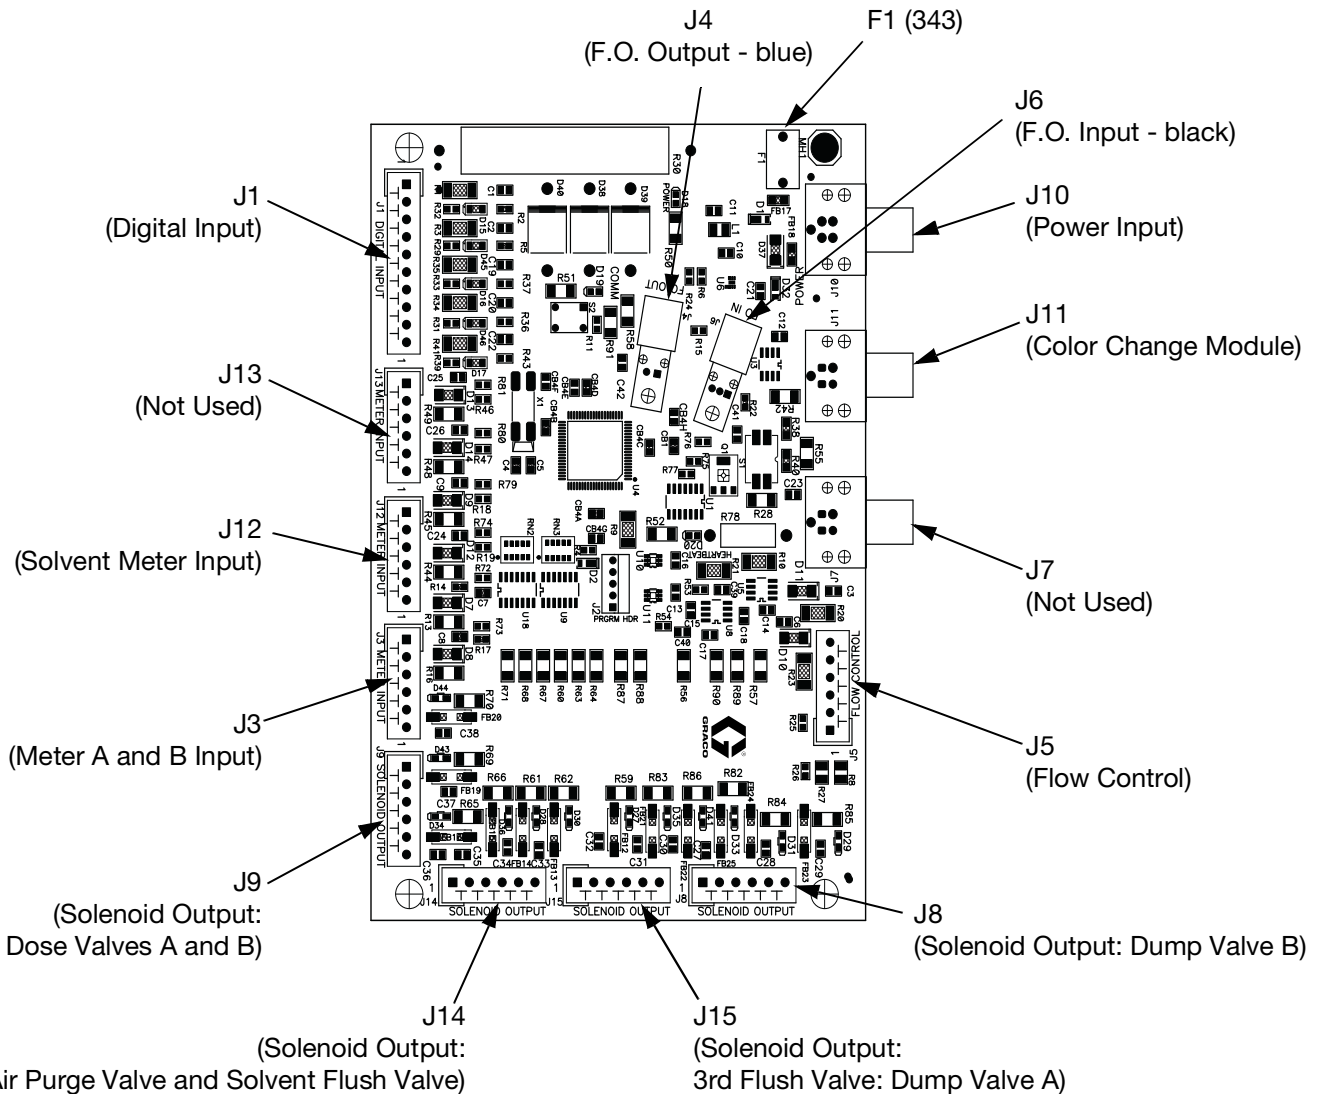
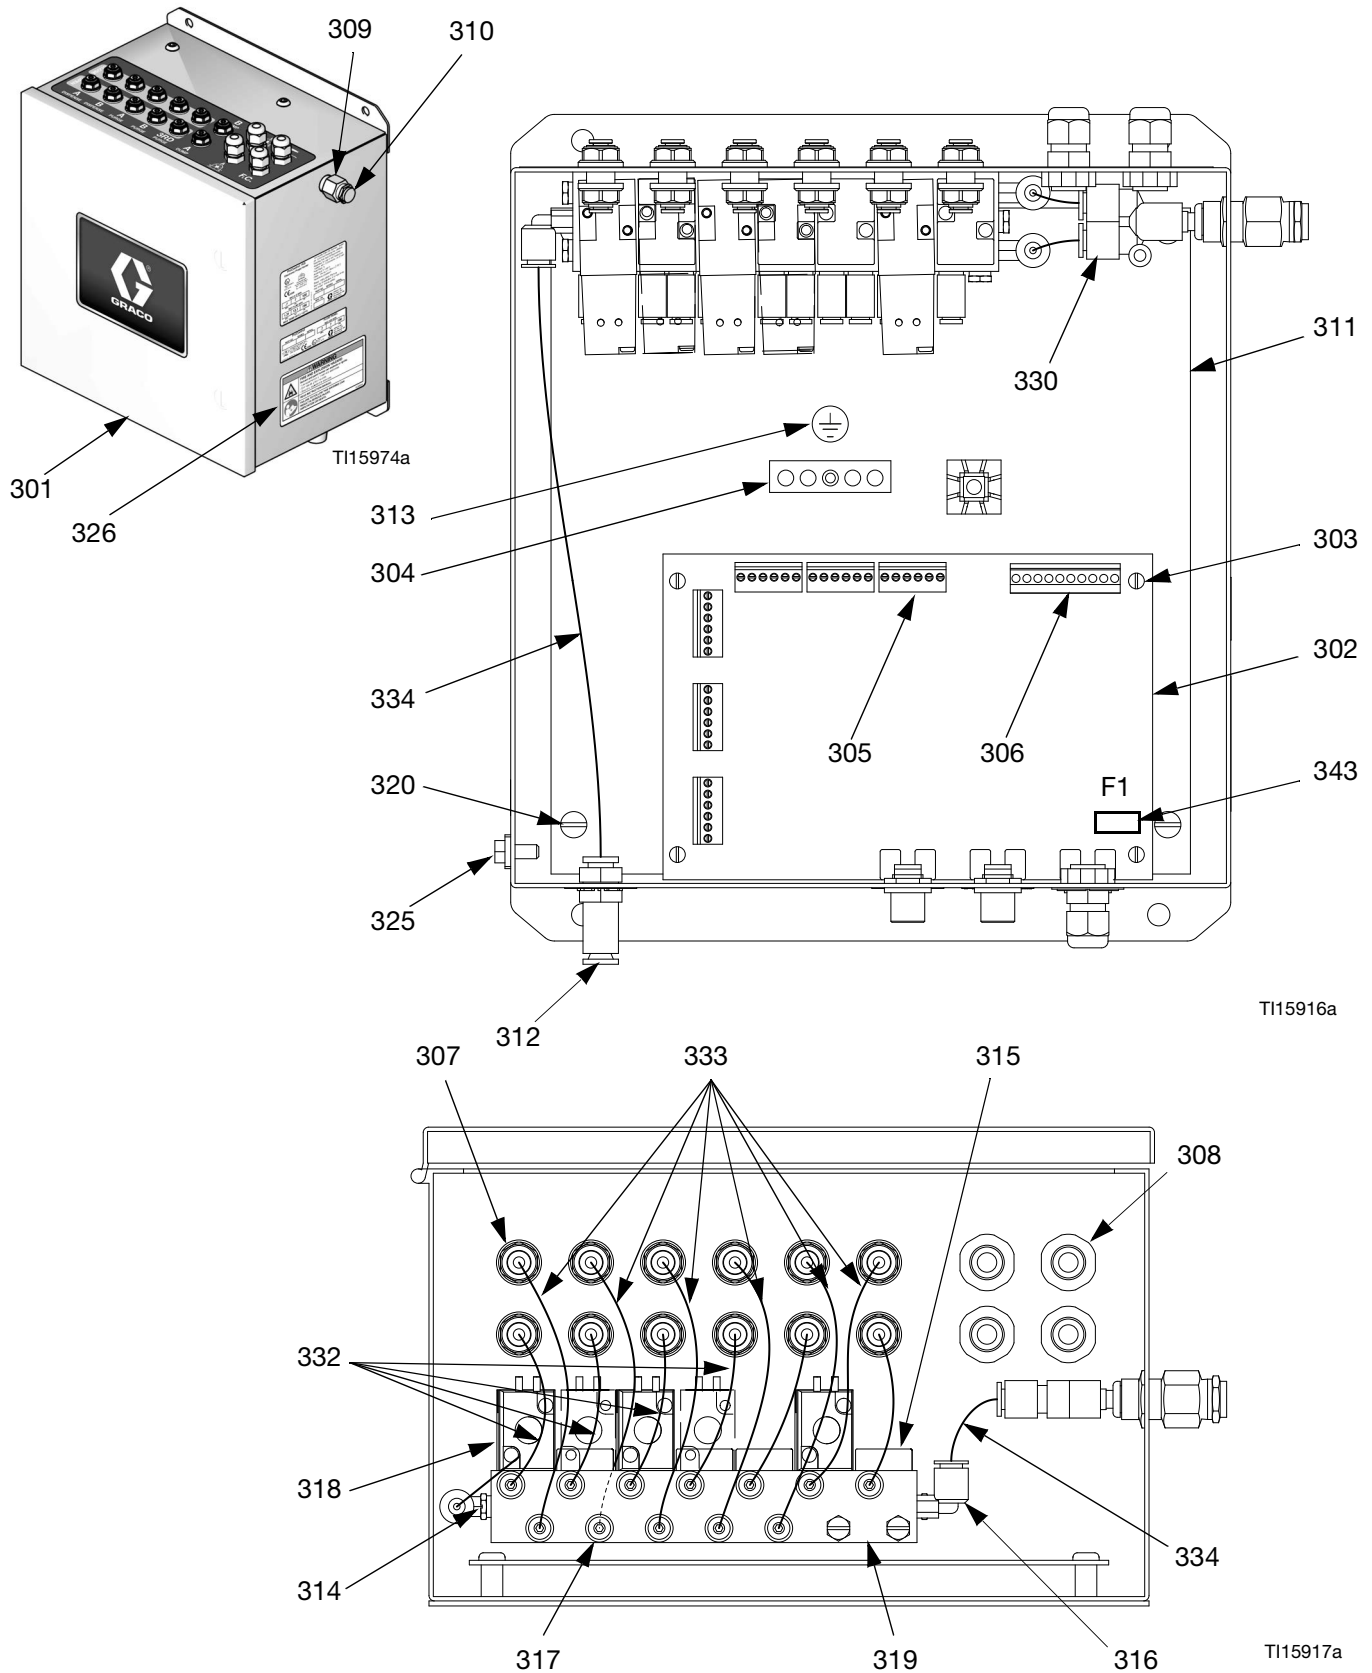

FIG. 17: 255765 Fluid Station Control Board
FIG. 18: Fluid Station Control Box
2. Disconnect fiber optic wires (J4, J6) and all cables (J1, J3, J5, J7, J8, J9, J10, J12, J14, J15) from control board (302). FIG. 17.
3. Remove 4 screws (303). Remove connector jam nuts on the outside of the enclosure (301). Remove control board (302). FIG. 18.
4. Install new control board (302) with 4 screws (303).
5. Connect cables to control board (302). FIG. 17. Insert fiber optic cable connectors (J4, J6) into board connectors (E), matching blue with blue, black with black, and hand-tighten connectors. Do not pinch or kink the fiber optic cables; the cables require a 2 in. (51 mm) bend radius.
2. Disconnect 2 solenoid wires from control board (302). See FIG. 17 and **System Electrical Schematic**, page 29.
2. Locate fuse F1 on the control board. See FIG. 18. Remove the screw and metal strap.
4. Install the new fuse (343).